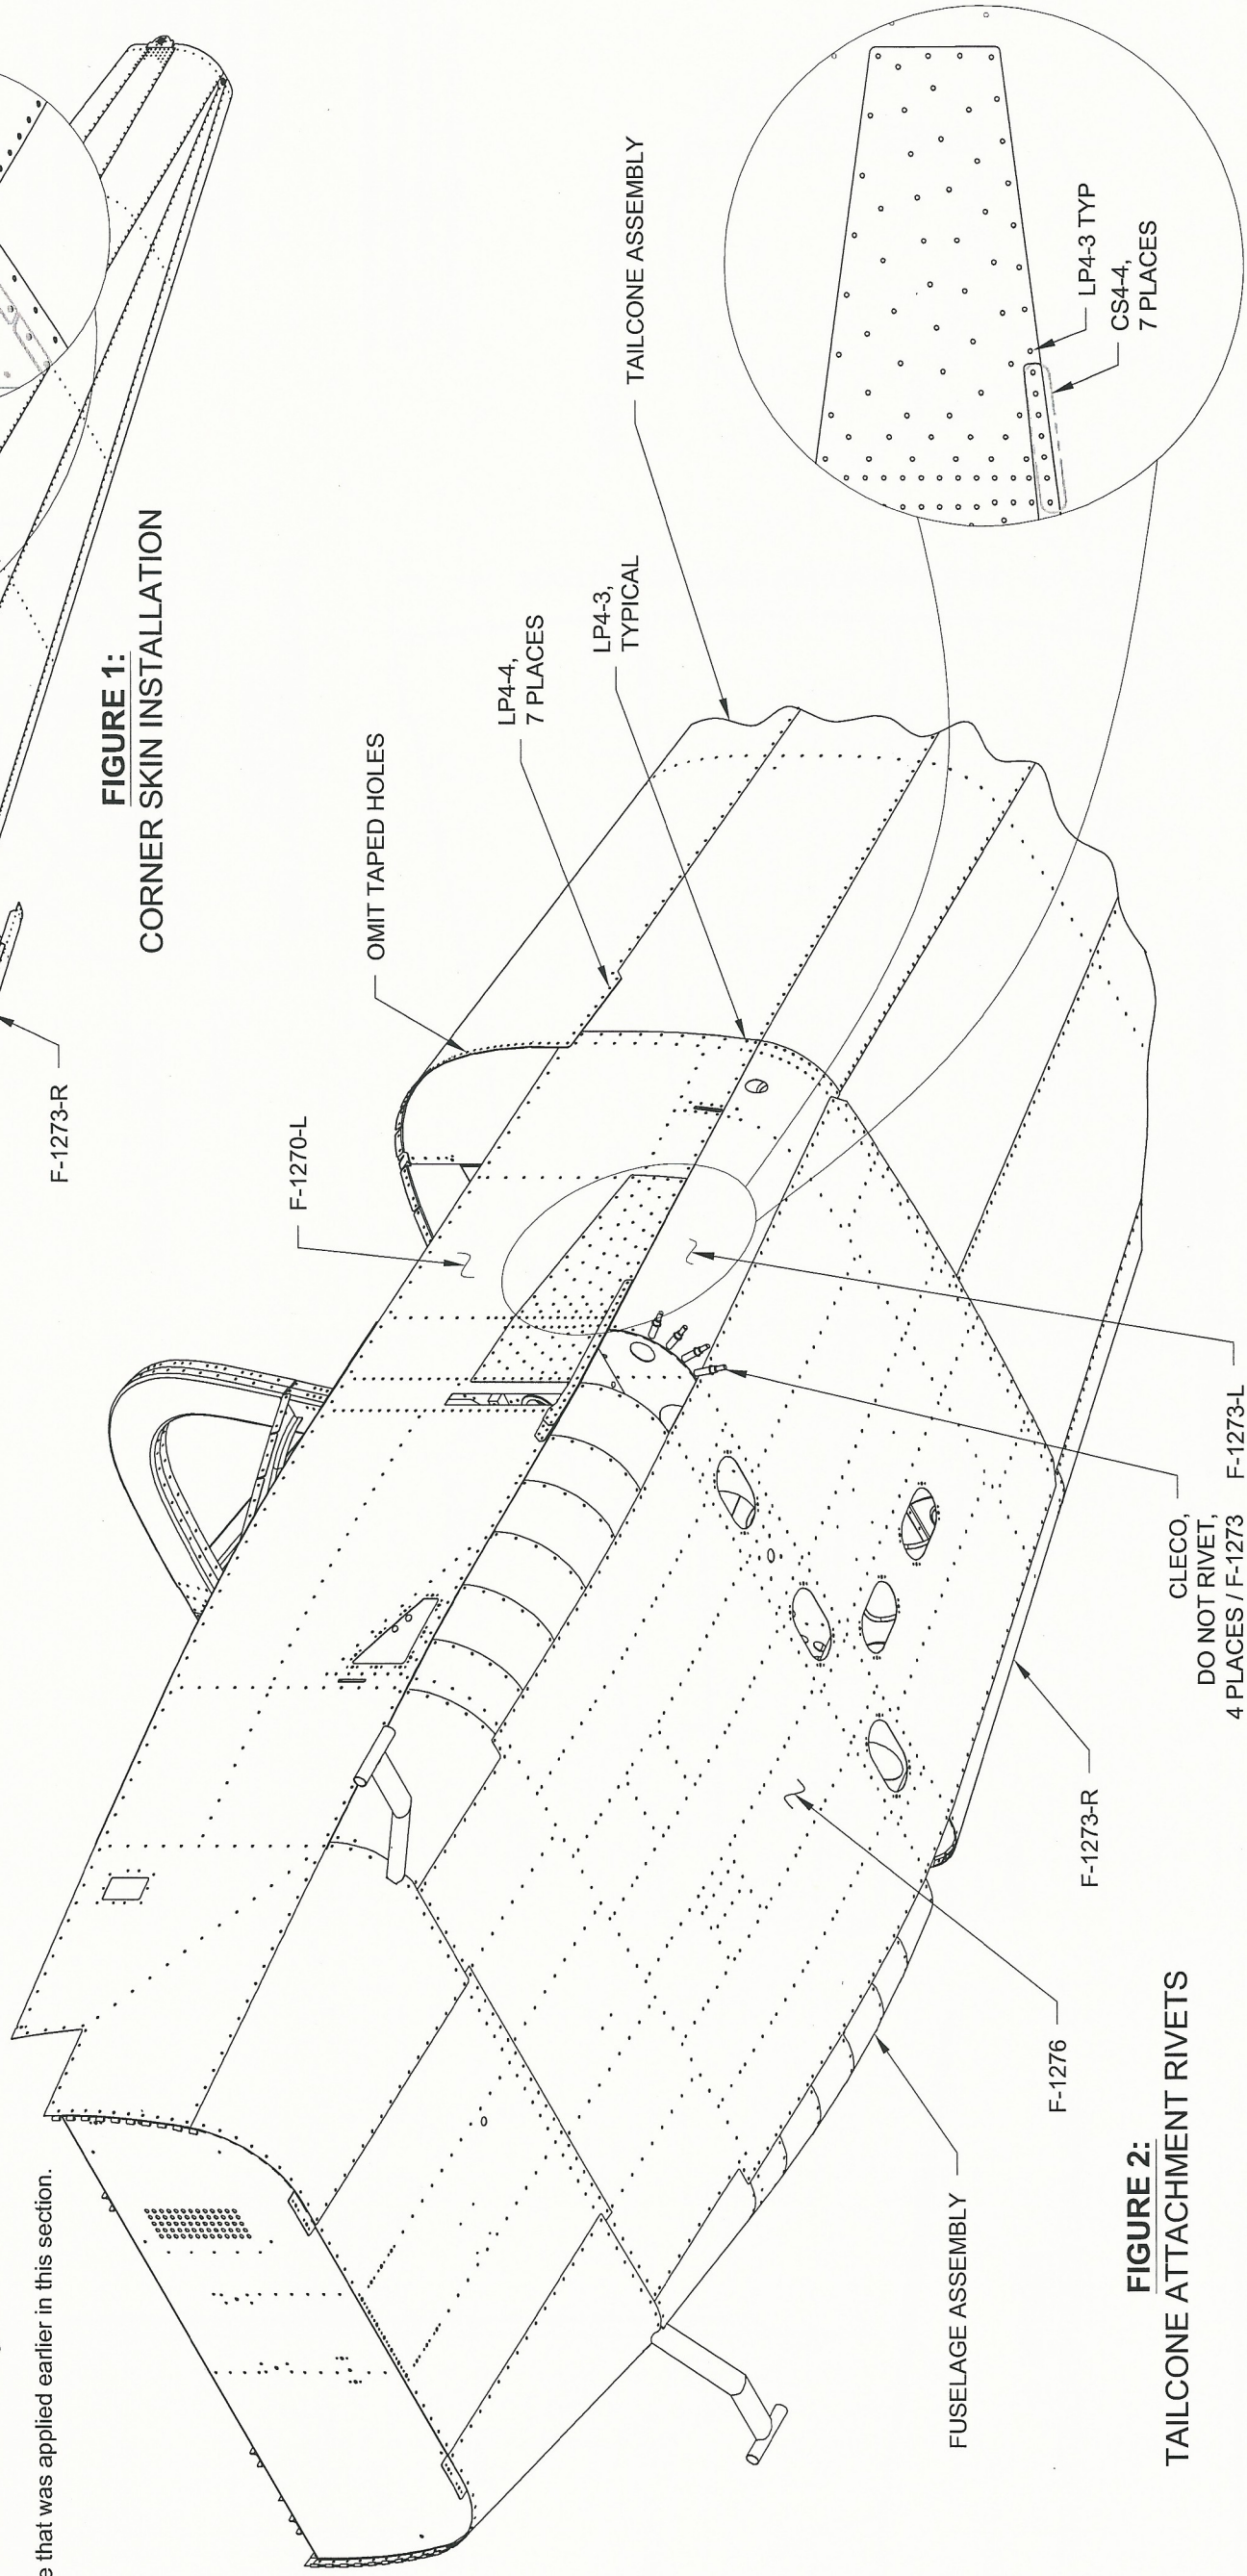

FIGURE 2:
NOTE: The clecoes in the F-1273-L & -R Baggage Corner Skins that are called out in Figure 2 mark holes that will be left open in this section.
Step 3: Rivet the Tailcone Assembly skins, the holes common to the Tailcone and Fuselage Assembly and the F-1273-L & -R Baggage Corner Skins using rivets called out in Figure 2. Rivets on the right side are a mirror of the left. Omit the holes covered by tape.
Rivet the holes common to the F-1270-L & -R Skins, F-1280A & F-1270B Side Skin Doublers and F-1273-L & -R Baggage Corner Skins as shown in Figure 2.